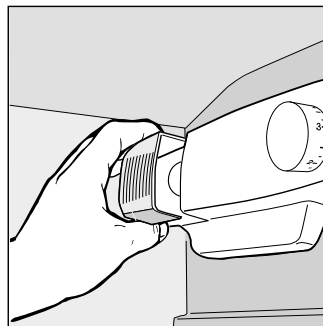

Fig. 7
- Replacing the light bulb. The bulb for lighting the interior of the refrigerator is located at the back of the thermostat box. When replacing the lamp, unplug the appliance from the electrical socket, unscrew the burned out lamp and replace it with another with a wattage no higher than 15W (fig. 7).